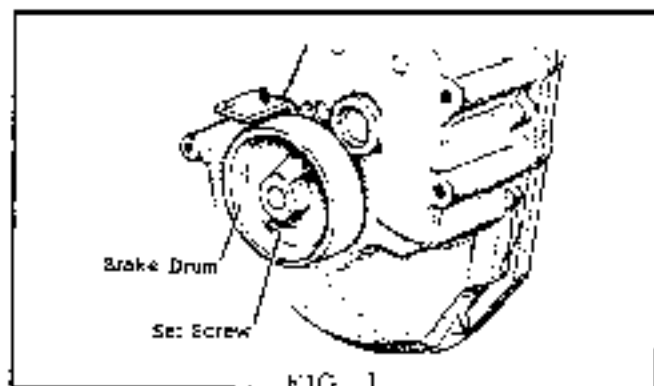

FIG. 1
1. Assemble the brake drum to the shaft with the key and setscrew. The setscrew side of the brake drum faces away from the transmission. See Fig. 1.